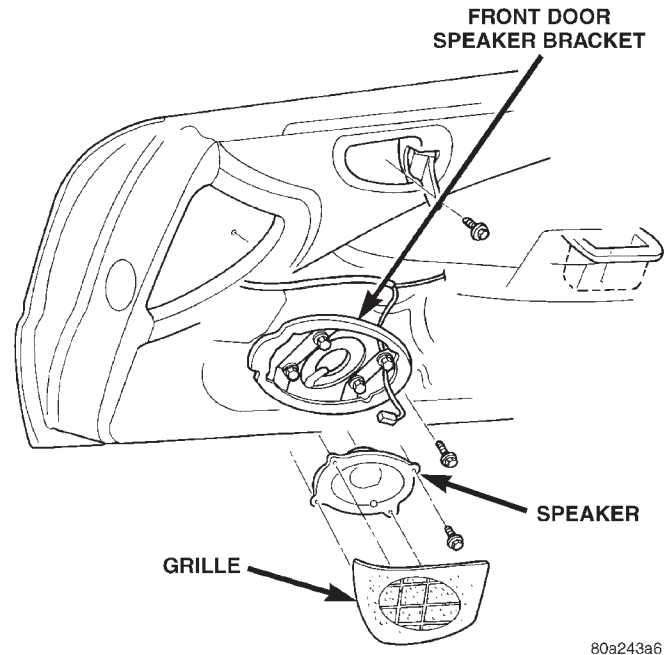

Fig. 3 Door Mounted Speaker
- (1) Carefully, pry speaker grille away from door trim panel (Fig. 3).
- (2) Remove four speaker retaining screws.
- (3) Pull speaker away from door and disconnect wiring.